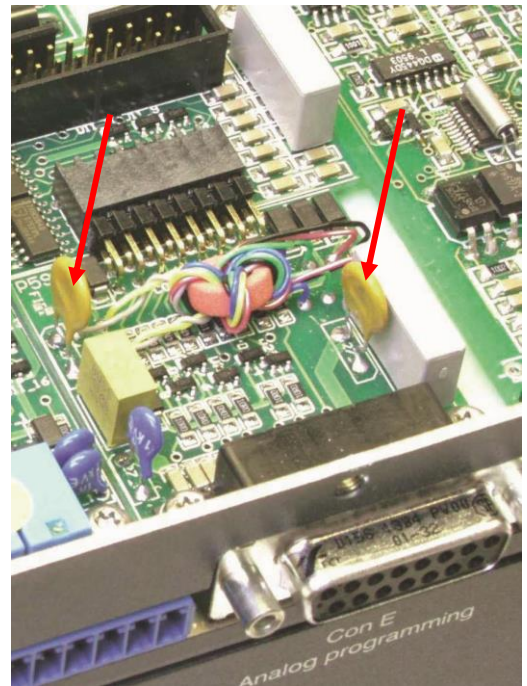

fig 6 - 1
- Check fuse F27\_2 in series with Ø (pin 8 of CON E), see fig. 6 - 1. To check the fuse measure the voltage between Ø and the minus output, a high voltage means too much current flowing through the fuse. F27\_2 = 650 mA, self resetting.